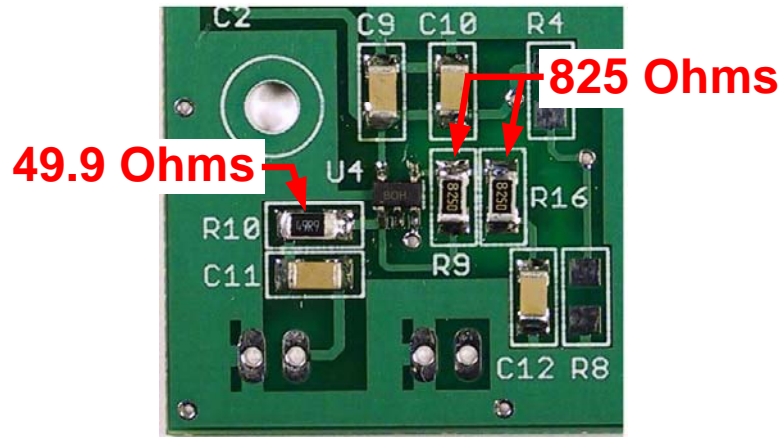

Figure 7. R9, R10 and R16 Locations
Remove the 49.9 Ohm resistor from the resistor compartment. It is marked 49R9. Refer to **Figure 7**. Install it at R10.
- Remove the strip of 825 Ohm resistors. These are marked either 8250 or 825R. Refer to **Figure 7**. Install these at: